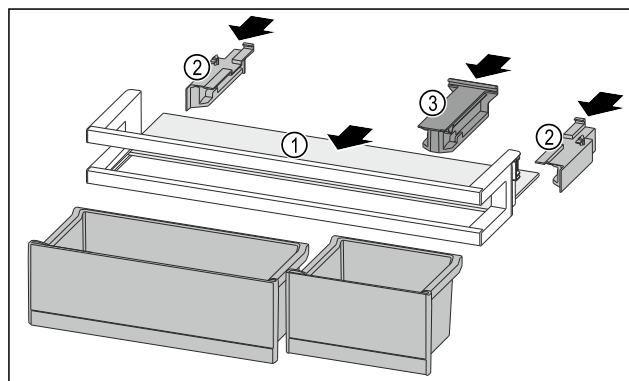

Fig. 128
- Push the shelf Fig. 128 (1) into the side cutouts.
- Insert the side parts Fig. 128 (2).
- Insert the retaining part Fig. 128 (3).